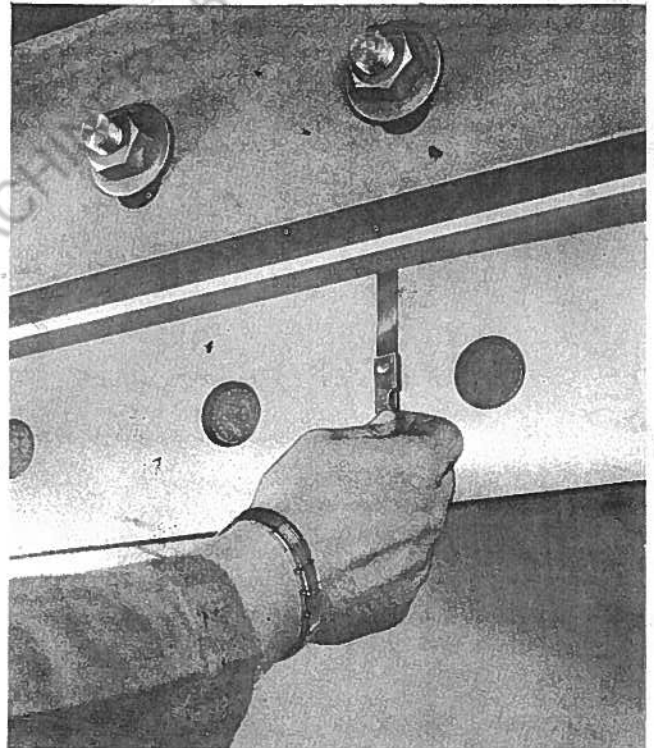

FIG. 8 Adjusting knife clearance
**Adjustment Procedure:** — Adjust the bed away from the upper knife so as to make sure the knives will not override. Then, with the power disconnected turn the shear over by hand until the knives intersect at the right hand end. Insert feelers equal in thickness to the desired setting vertically between the knives at the intersection as shown in Fig. 8 and adjust the bed accordingly. Next, turn the crosshead so that the knives intersect at the left hand end and adjust the bed to the feelers. Recheck right hand end. When both ends of the bed are adjusted to the desired clearance *retighten the bed bolts and nuts*. Then turn crosshead so that knives intersect